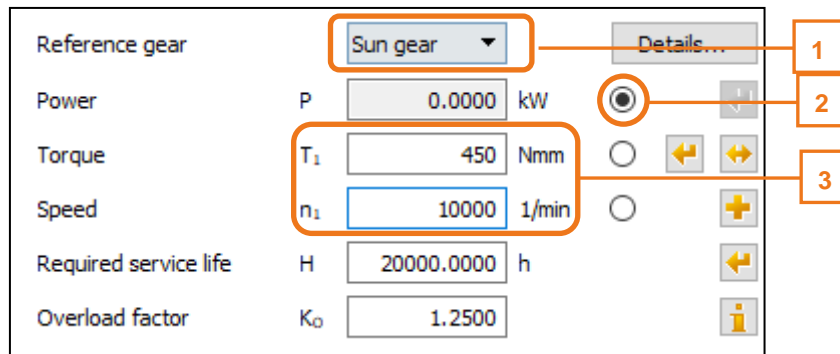

Figure 9. Specifying the load
Define the reference gear (1), the calculated value (2) (if the torque and number of rotations have been defined, the performance will be calculated) and input the data for the number of rotations and torque (3) (see Figure 9).